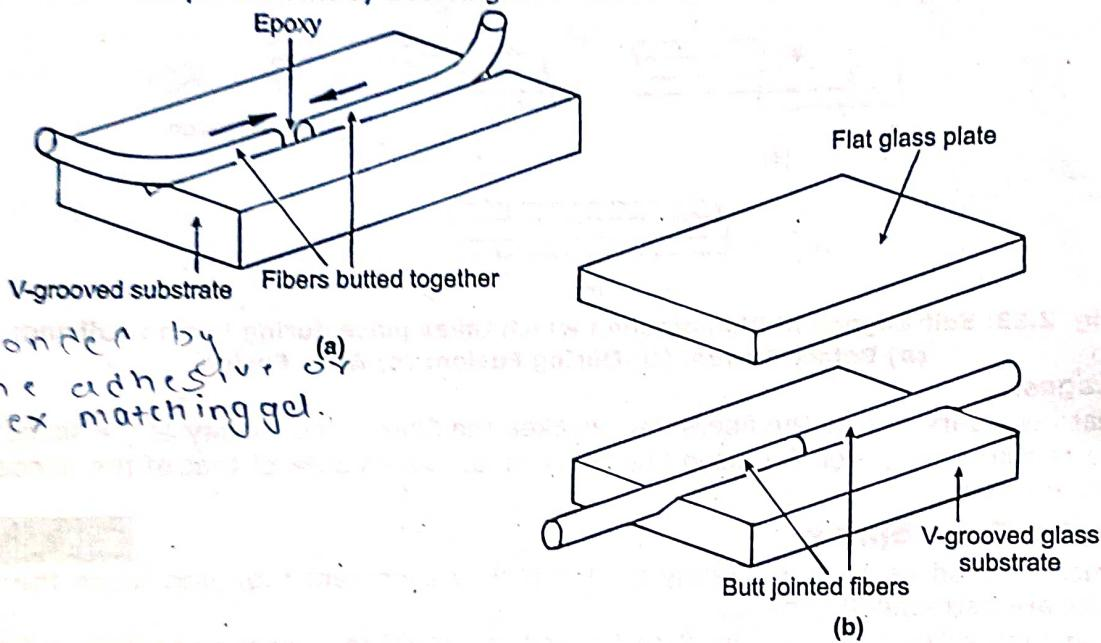

Fig. 2.15: V-groove Splices
- The V-groove splice shown in Fig. 2.15 (a) gives alignment of the prepared fiber ends through insertion in the groove.
- V-groove formed by sandwiching the butted ends between a V-groove glass substrate and a flat glass retainer plane shown in Fig. 2.15 (b).